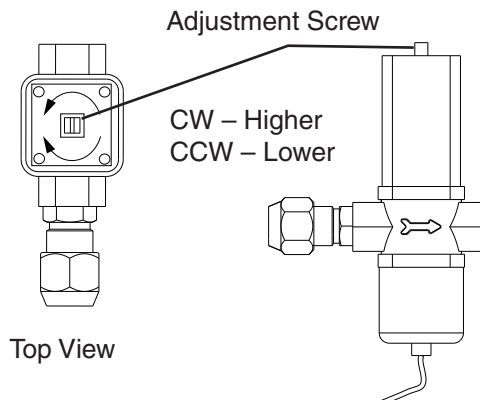

Fig. 9
- 2) 5 min. after a freeze cycle starts, confirm that the thermometer reads 104°F to 115°F (40°C to 46°C). If it does not, rotate the adjustment screw by using a flat blade screwdriver until the temperature is in the proper range. See Fig. 9. Next, check that the reference pressure is in the range indicated in the Head Pressure table in the Performance Data section. If it is not in the proper range, verify the refrigerant charge.